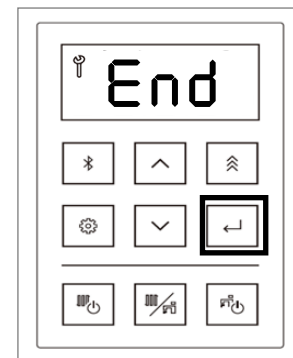

Figure 149
13. Push the Select button, and the display shows “End” (Figure 149).